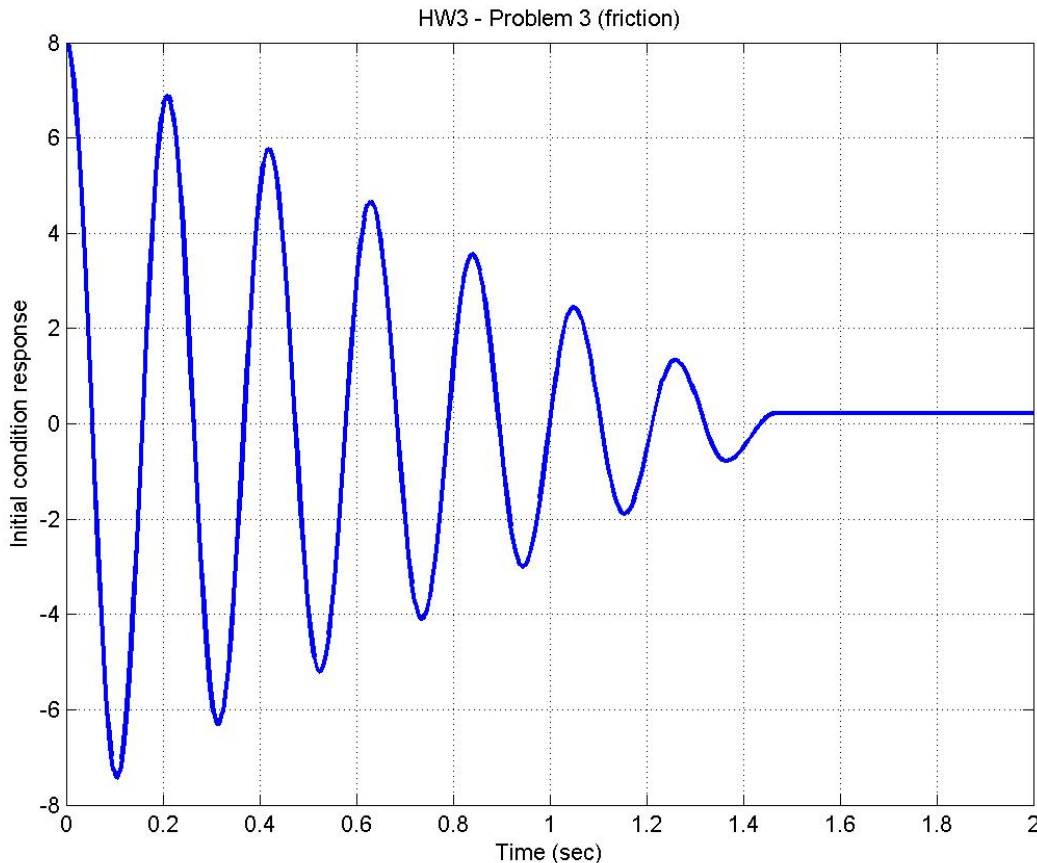

Figure 3.3b – Step response for a system with Coulomb friction.
b) Figure 3.3b also shows the step response of a spring-mass system where $m=1\text{kg}$ and $k=900\text{ N/m}$, except here losses are due to nonlinear friction. The equation of motion here is:
c) Note in Figure 3.3b that the response does NOT come to rest at $x=0$. (The final value on the y axis is offset from 0.) **Explain how this is possible. Will the final value be different, given different initial conditions? Why or why not?**